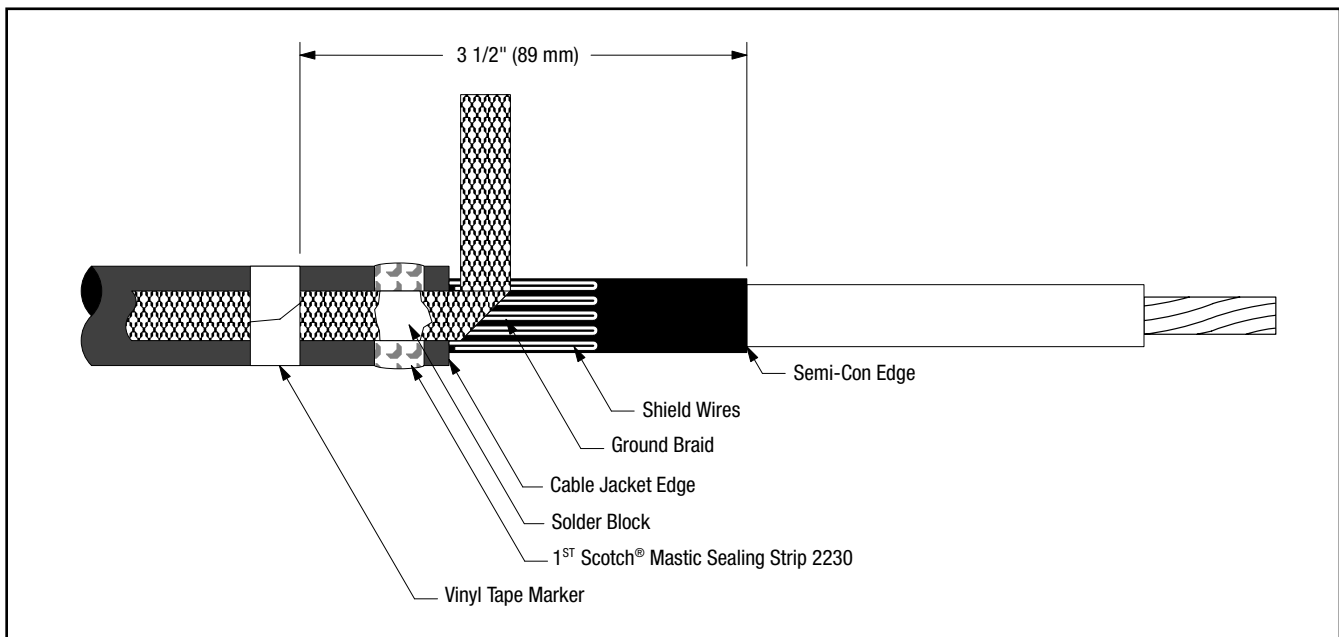

Figure 10
- 8.2 Position pre-formed ground braid with short tail over wire shield directly adjacent to cable jacket cut edge. Position long tail of ground braid, extending over cable jacket with solder block over mastic strip (*Figure 10*). Secure ground braid to cable jacket 3 1/2" (89 mm) from cable semi-con edge using vinyl tape (*Figure 10*).